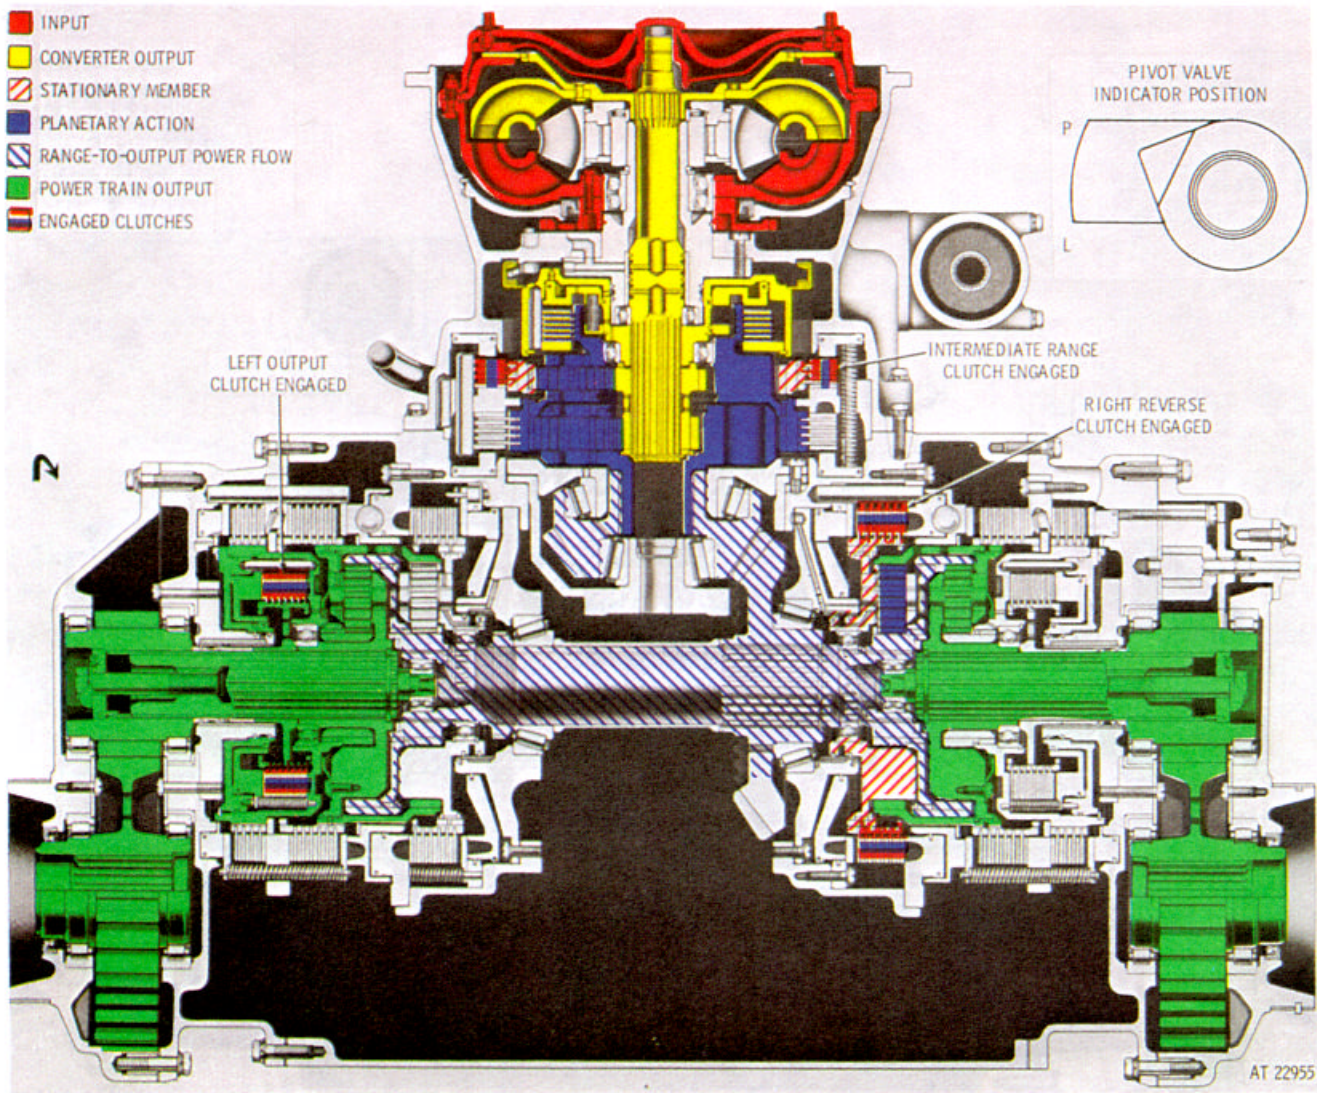

Figure 2-29. *Third gear, pivot right steer operation-torque path.*
(3) Second gear, pivot right steer, operates in the same manner as pivot left steer except that the actions described in (1) and (2), above, take place in opposite sides of the transmission. (The reverse range right clutch is engaged, while the left transmission output drives forward as in second gear, straight travel.)
c. *Third Gear, Pivot Right Steer* (fig. 2-29).